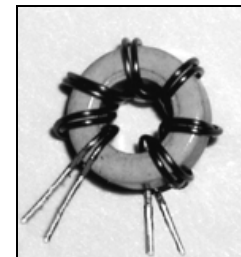
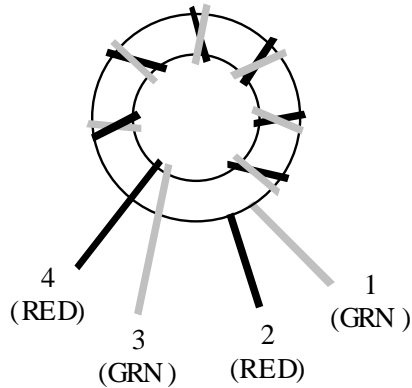

Figure 20
Figure 21
- Wind 7 turns of the twisted wires onto the small ferrite core (FT37-61). The turns should be spaced to cover about 80-90% of the core, as shown in Figure 20 and Figure 21. **Note:** To make the turns spacing easy to see, the wires shown in Figure 20 were not twisted together.
- Separate T3's leads as shown in Figure 21. The numbers on the leads correspond to numbered pads on T3's PC board outline.
- Strip and tin the leads of T3. (Figure 20 shows the leads tinned.)
- Install T3 vertically on the PC board as indicated by its outline (near the microcontroller, U1). Insert the red and green leads into their numbered holes as shown in Figure 21. Pull the leads taut on the bottom, then solder.